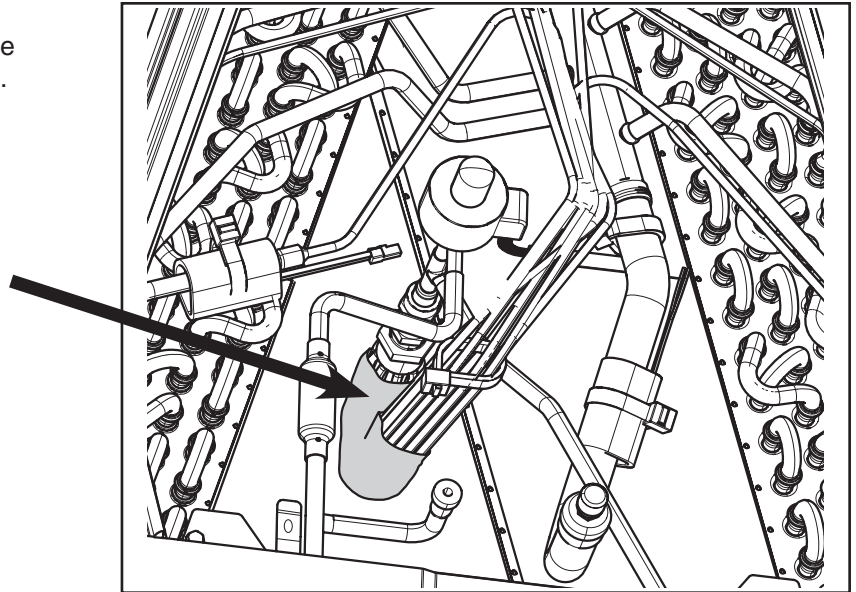

Figure 7 – Slide insulation
- Slide the tubing insulation as far back on the distributor tubes as possible so that the mechanical fitting is visible (See Figure 7).